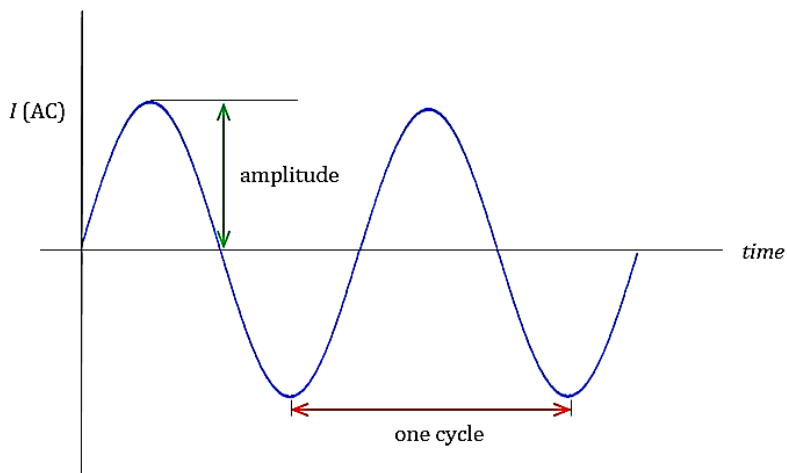

Fig. 2
Alternating current (AC), on other hand, refers to a current that change direction with time (oscillate). There are different types of AC currents: sinusoidal, square, triangular and others. The sinusoidal current (**Fig. 2**) is the most popular one among the others since it is the natural output of the commercial alternating current generators or *alternators*. Other types of AC currents are produced from the sinusoidal one, using some special electronic devices.